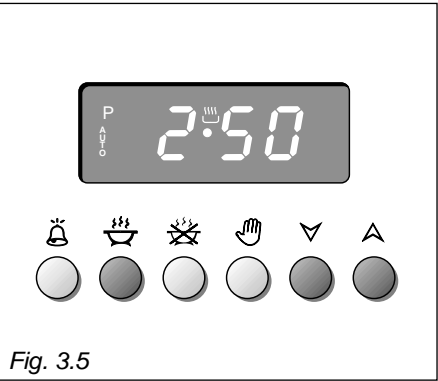

Fig. 3.5
- 1. Set the length of the cooking time by pushing the  button and the  button to advance, or  to go back if you have passed the desired time (fig. 3.5). The **AUTO** and the  symbol will be on.